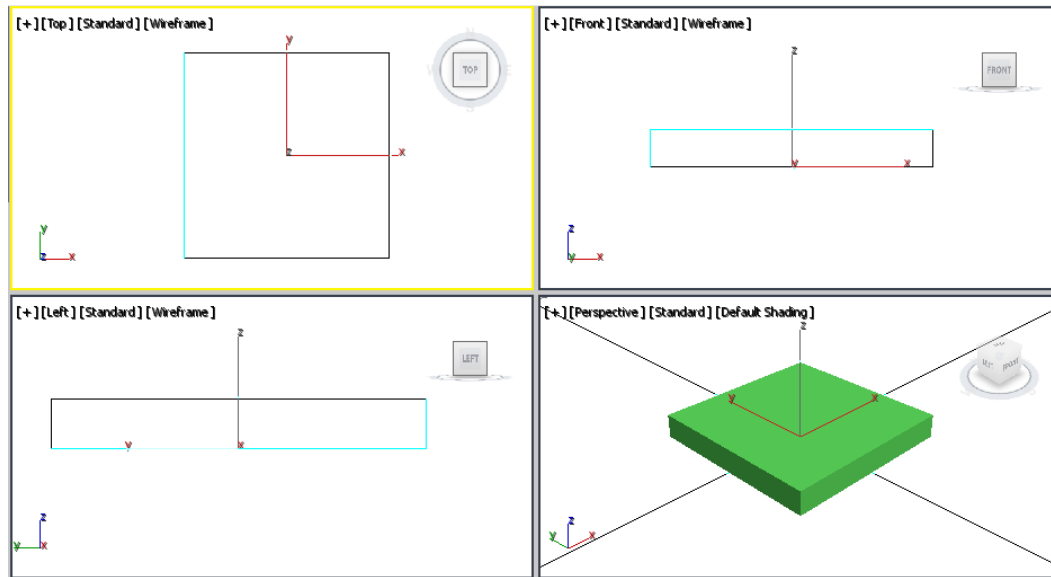

Figure 5-24 The base extruded in all viewports
5. In the **Parameters** rollout, set the value **0.4** in the **Amount** spinner and press the ENTER key; *base* is extruded, as shown in Figure 5-24.